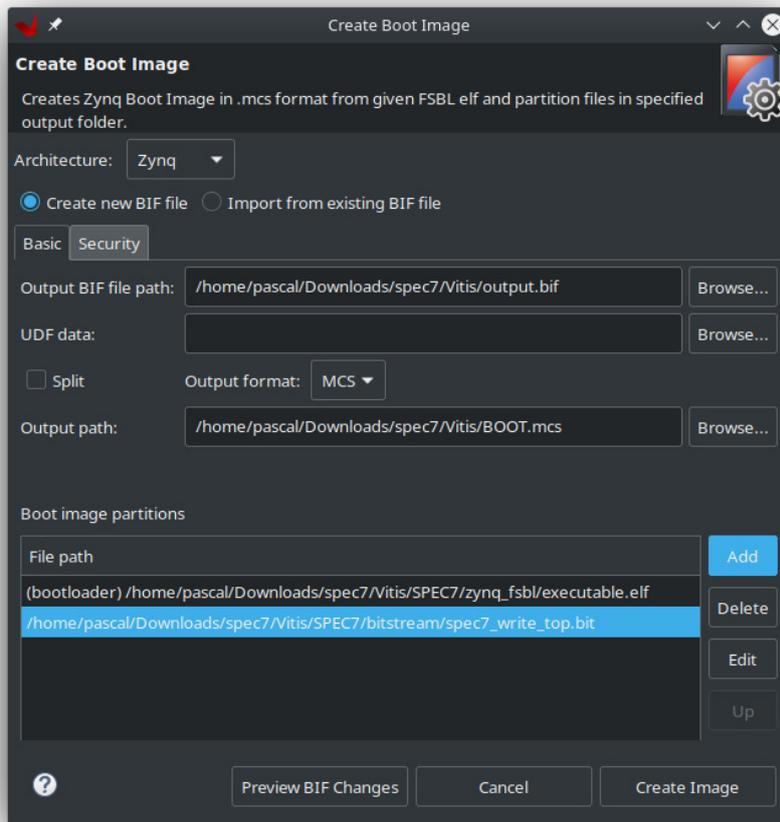

Figure 38: Create Boot Image in Vitis
15. Click on “Add” another time and specify your bitfile and click on “OK”. Your “Create Boot Image” window should look something like figure 38